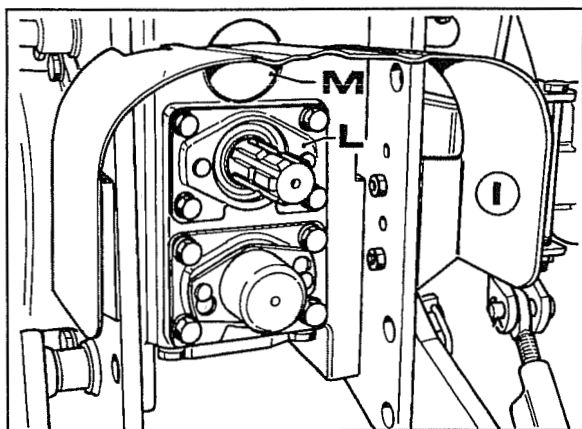

Fig. 11
1. Remove the guards **I**, cover **L** and cover **M** in Fig. 11.